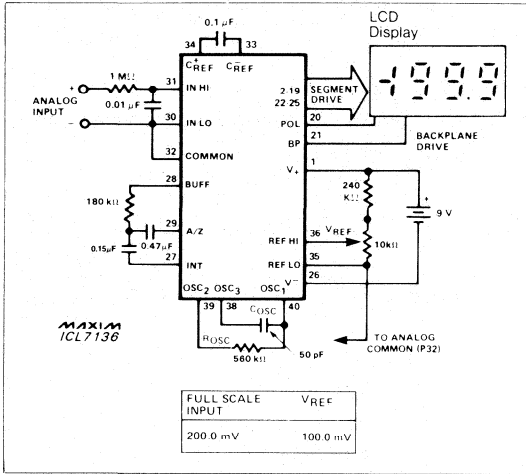

Figure 1. Maxim ICL7136 Typical Operating Circuit
**Note 3:** Unless otherwise noted, specifications apply at  $T_A = 25^\circ C$ ,  $f_{CLOCK} = 16kHz$  and are tested in the circuit of Figure 1.
( $V^+ = 9V$ ;  $T_A = 25^\circ C$ ;  $f_{CLOCK} = 16kHz$ ; test circuit - Figure 1; unless noted)
**Note 8:** Test condition is  $V_{IN}$  applied between pins IN-HI and IN-LO. i.e., 1M $\Omega$  resistor in Figure 1.
**Note 12:** 1M $\Omega$  resistor is removed from circuits in Figure 1.